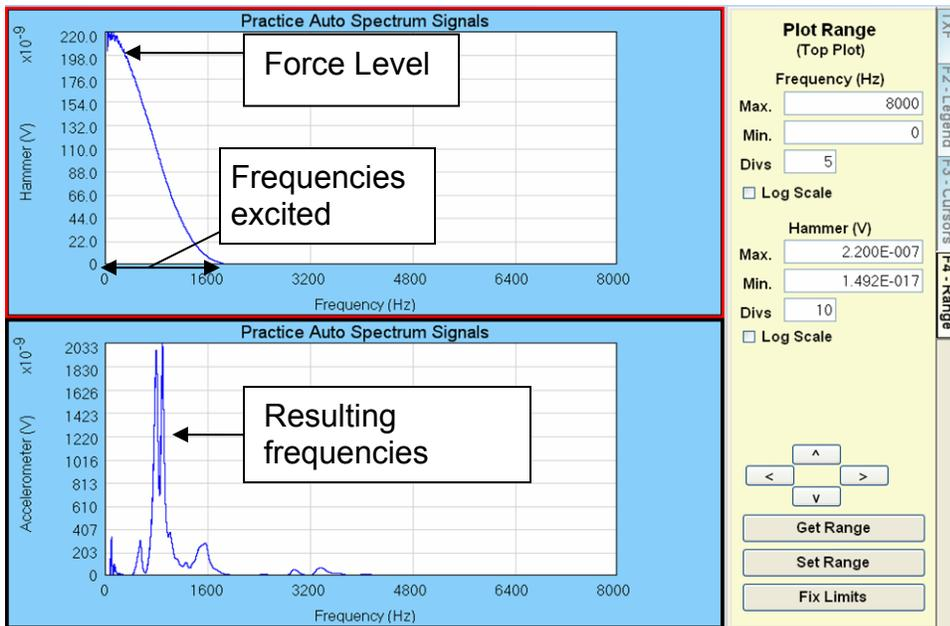

Figure 22: Auto Spectrum Option in the Practice Section
Auto Spectrum shows the frequency range and force magnitude that is created by the impact, as shown in Figure 22.
In Figure 22, the frequency range that was sufficiently excited by the impact was 0-1600 Hz. If frequencies greater than 1600 Hz appear in the magnitude plot, then they should be disregarded, or a different hammer and accelerometer combination should be used to sufficiently excite the desired frequency range. The user can also use this information to change the measurement bandwidth (see Figure 10).
**Auto Spectrum:** Plots the stimulus magnitude squared and response magnitude squared versus frequency. Is also called the power spectrum, see Figure 22.